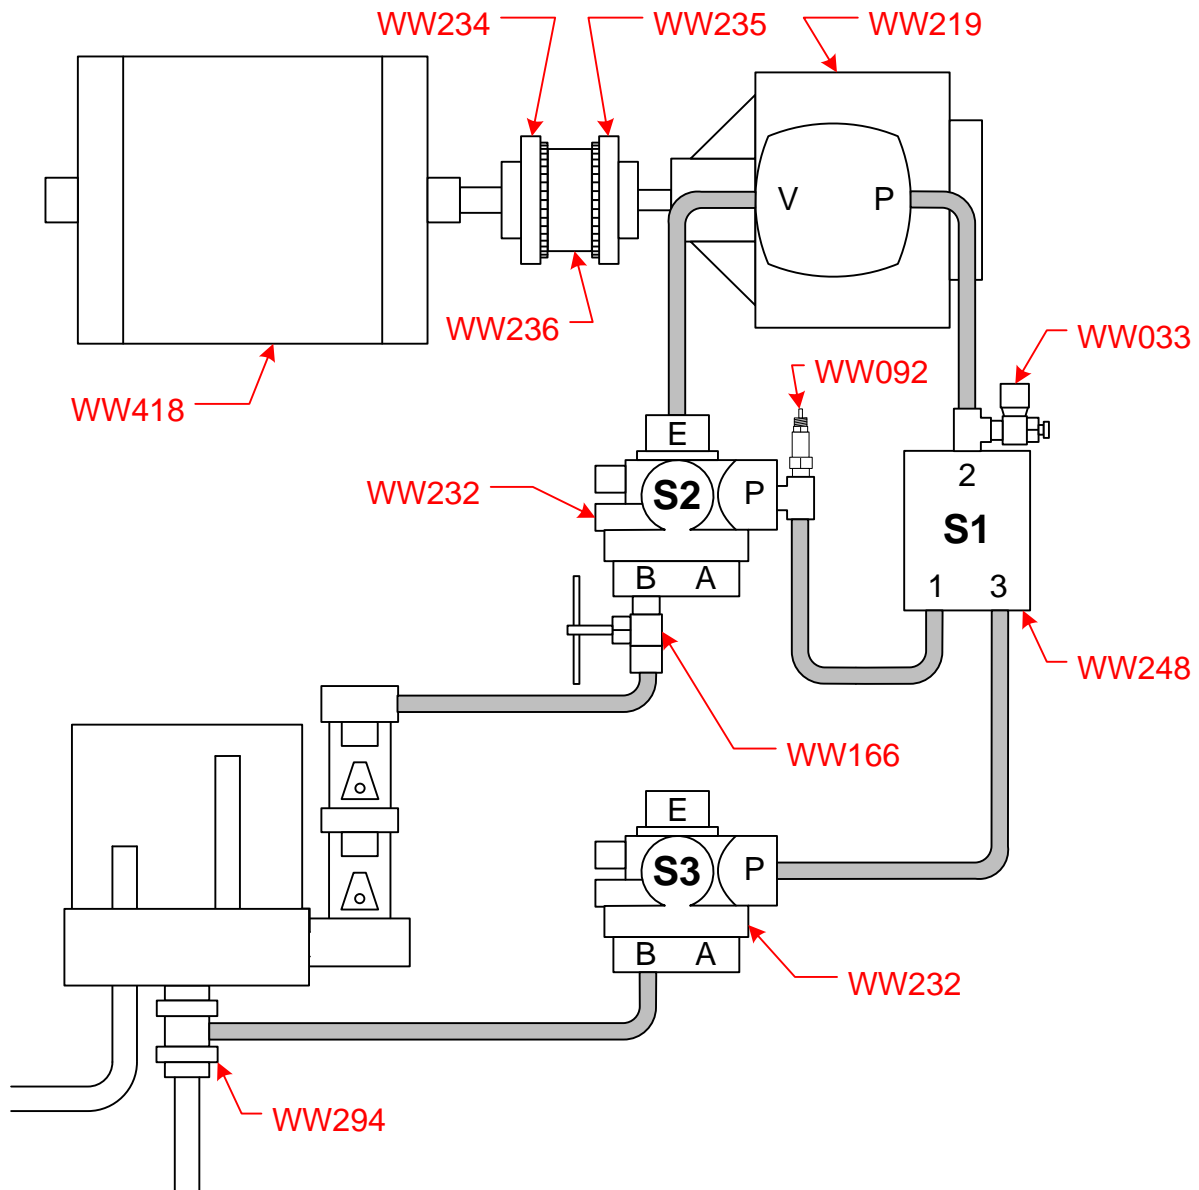

Figure A-1: CVE-81 Pneumatic System Components and Connections
1. Push that tube through the grommeted hole in the sample compartment's left side (which can be lubricated with liquid soap), then slide it over and clamp it onto the exposed end of the sample chamber's intake tube (WW064 in Figure A-1, also shown below).